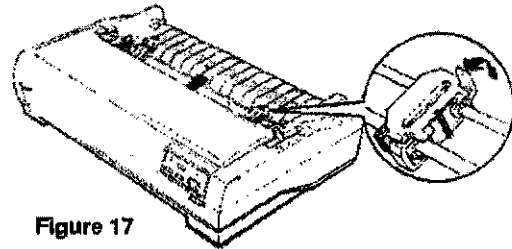

Figure 17
4. If the paper does not lie flat against the carriage, release the right sprocket lock (pull it forward) and slide the sprocket unit to a position where the paper is straight and has no wrinkles, then push the sprocket lock lever back into place (Figure 17).